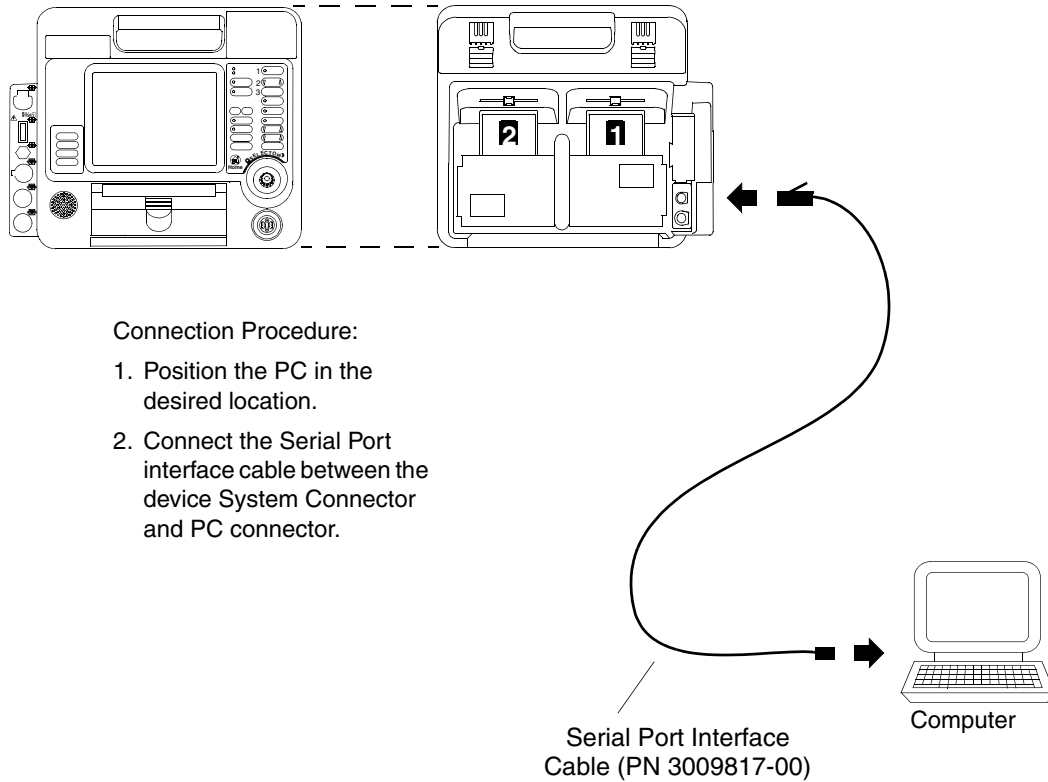

Figure 6-6 Equipment Connections – Direct Connect
- **Direct Connect** Send reports by serial data cable to a PC-compatible computer with CODE-STAT Suite installed. Requires the following for interconnection (see Figure 6-6):
Figure 6-6 shows you the equipment connections to send reports directly to a computer using a direct connection cable.